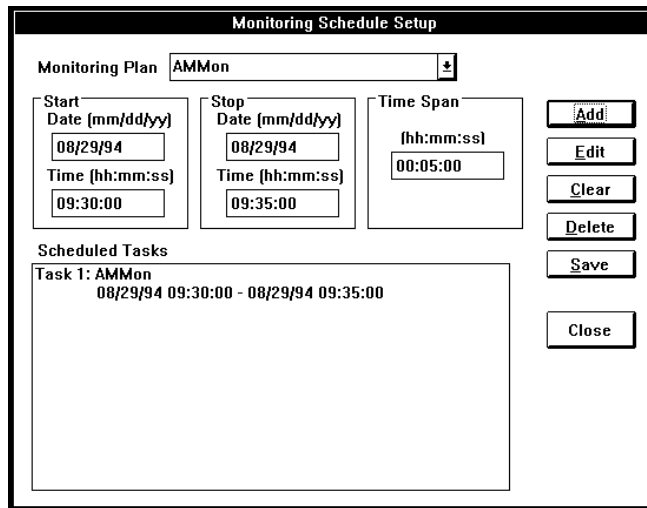

Figure 7-6: Monitoring Schedule Setup Dialog Box
1. Click on **File** on the main Menu Bar to open the **File Menu** and then select **Schedule...** to open the **Monitoring Schedule Setup** dialog box (Figure 7-6).